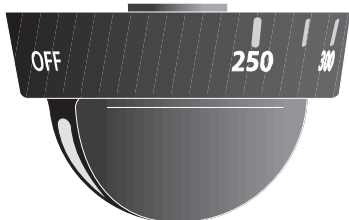

FIGURE 1
2. Remove broiler pan and insert, Figure 1.
6. Place broiler pan on rack; make sure the broiler pan and insert is positioned as shown, Figure 1.